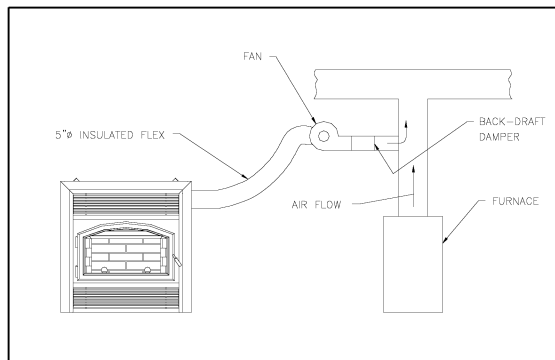

Figure 21
- G) At that point, the flexible pipe can be attached to any air distribution grill. It is possible to connect a flexible pipe to a central heating system. Make sure the pipe will be connected to the warm air supply duct, not to the return air duct (figure 21).